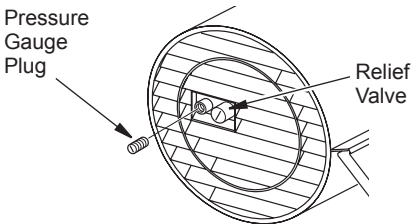

Figure 9 - Pressure Gauge Plug Removal
1. Remove pressure gauge plug from filter end cover (see Figure 9).